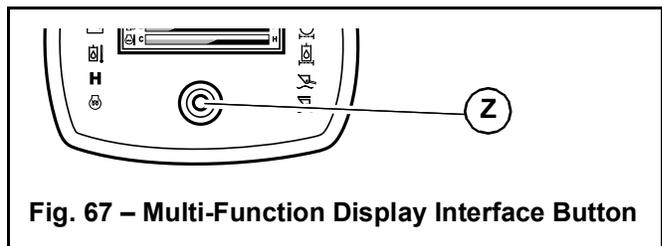
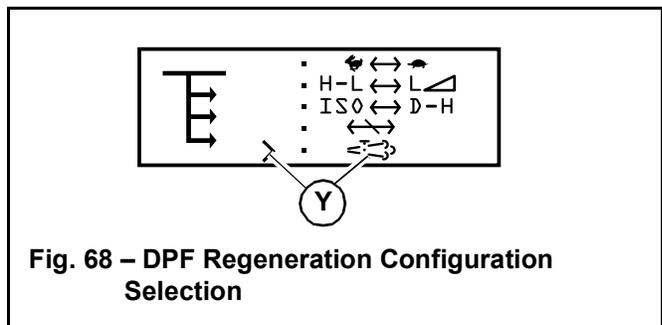
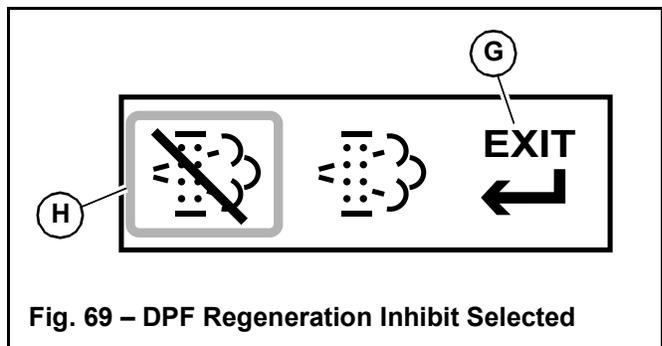

Fig. 67 – Multi-Function Display Interface Button
Fig. 68 – DPF Regeneration Configuration Selection
Fig. 69 – DPF Regeneration Inhibit Selected
- When all three checkmarks (M, O & P) are displayed on the forced regeneration screen, press and hold the interface button (Z, Fig. 67) on the multi-function display, until countdown (W, Fig. 64) reaches “0” and stationary regeneration begins.
- Hold down the interface button (Z, Fig. 67) on the multi-function display until the DPF Regeneration configuration selection screen (Fig. 68) displays.
- Press and release the interface button until the selection caret points to the  selection (Y, Fig. 68). Press and hold the interface button until the DPF Regeneration Configuration (Fig. 69) screen displays.
- Press and release the interface button to move box (H, Fig. 69) around the regeneration inhibit symbol, as shown Fig.69.
NOTE: “EXIT” selection (G) returns the display to the configuration screen (Fig. 68).
4. With box (H) around the regeneration inhibit symbol, press and hold the interface button until the regeneration inhibit symbol blinks.
5. Press and release the interface button to move box (H) around the “EXIT” selection (G). Press and hold the interface button until the configuration selection screen displays.